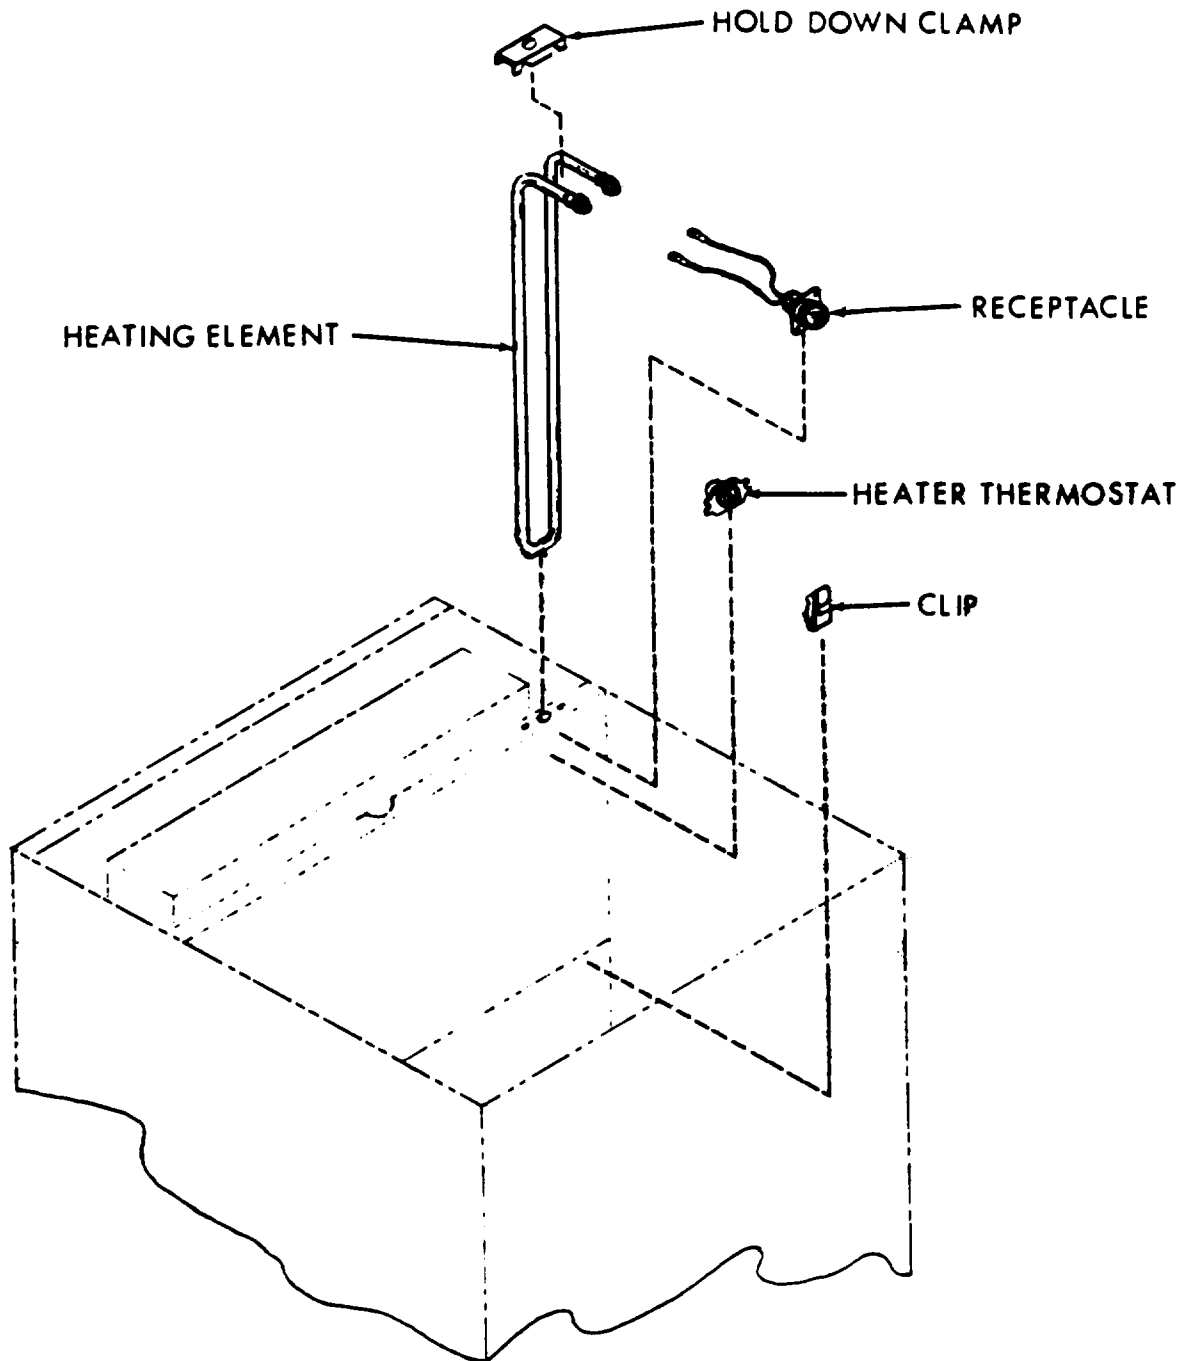

Figure 5-10. Heater Assembly.
5.93. Description (See figure 5-10).
Remove the heating elements from the air conditioner in the following manner: (See figure 5-10).